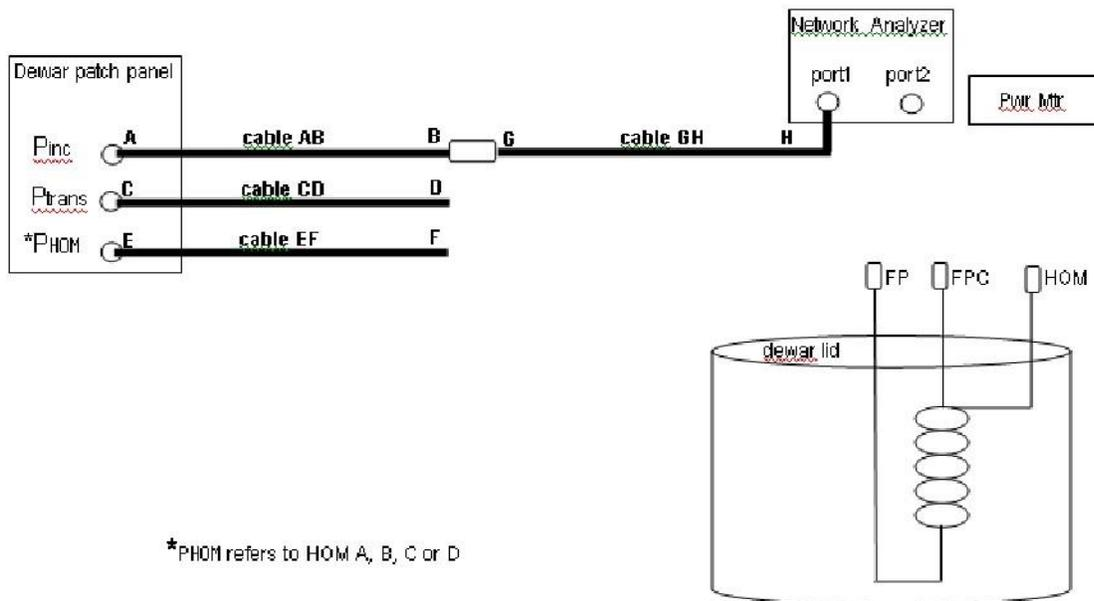

Figure A1. Connect cable AB to cable GH to measure the reflected power from VTA.
- C. At dewar, connect cable GH to cable AB as shown in figure A1.